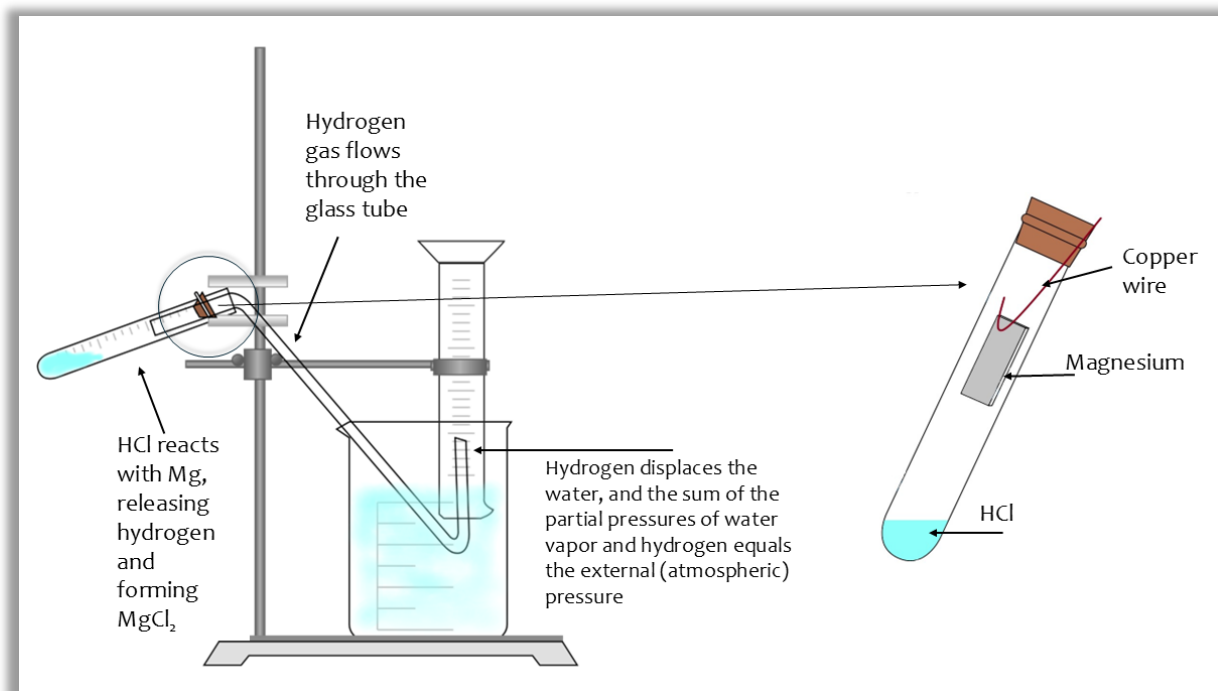

Figure 23. Apparatus Setup for the Experiment. Source: Author's own work.
- Assemble the apparatus as shown in the Figure 23. Make sure the stopper fits tightly in the test tube!